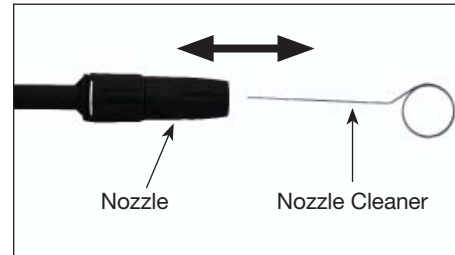

Figure 13
- Using the included nozzle cleaner, or an un-folded paper clip, insert wire into the nozzle hole and move back and forth until debris is dislodged (refer to Figure 13).